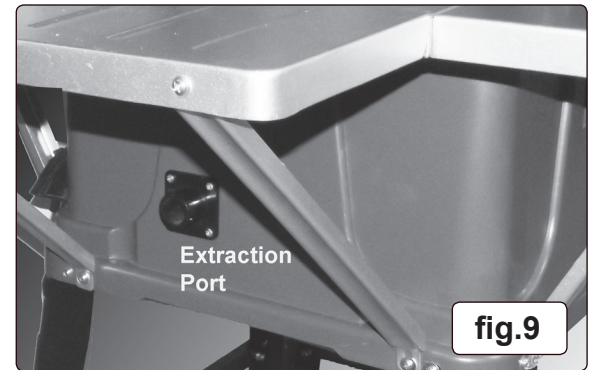

fig.9
- 4.7.2. An extraction port is provided to the rear of the machine (fig.9). Coupling a suitable vacuum cleaner via a suitable adaptor will help keep the work area clean and reduce airborne dust.